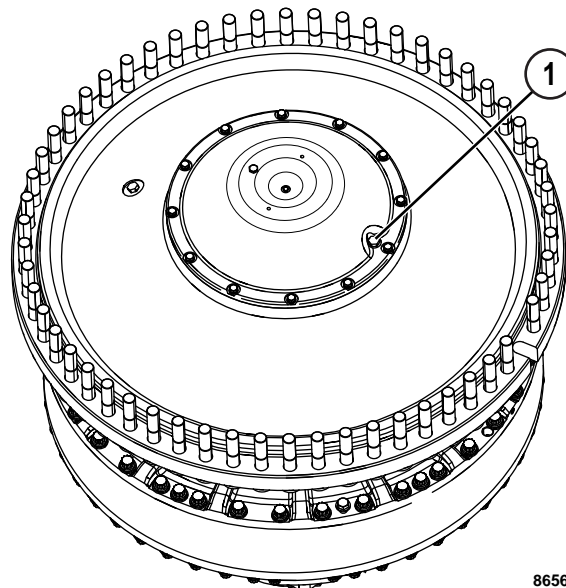

FIGURE 30-3. WHEEL HUB
1. Remove fill plug (1, Figure 30-3). Fill the wheel hub cavity with approximately 11.5 L (3 gal) of TO-50 oil.